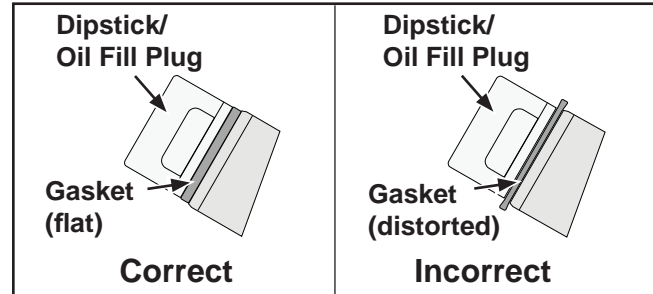

Figure 6-8. Dipstick Reinstallation.
5. Reinstall the dipstick/oil fill plug and tighten securely. See Figure 6-8.